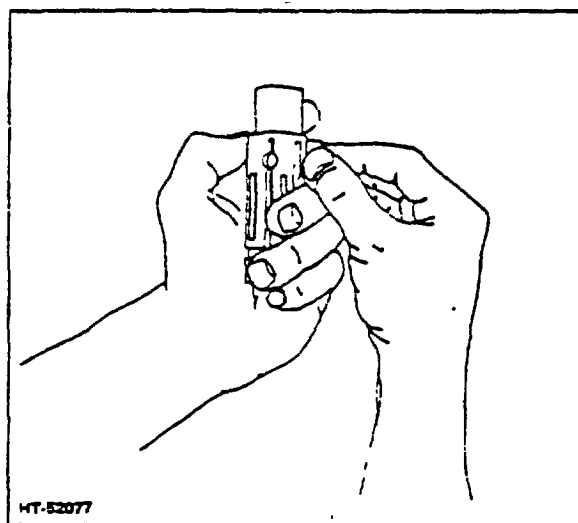

Figure 17. Removing Spring From Spool
19. Push the centering spring set out of the spool (Fig. 17).